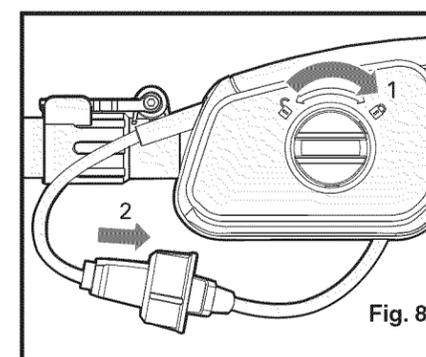

Fig. 8
4. Plug saw power cord into receptacle cord at end of inner pole. (See Fig. 8)